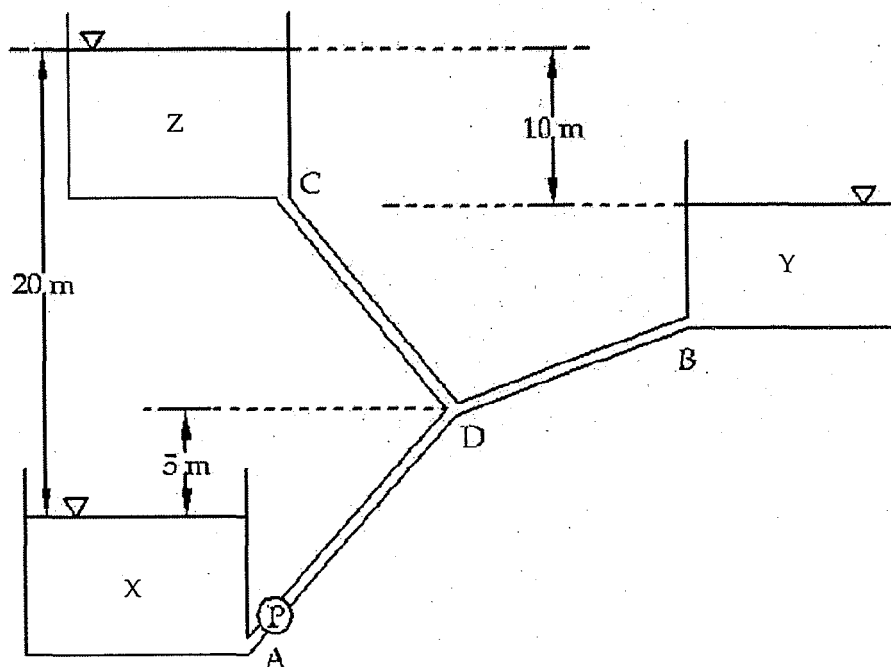

Figure 8
8) Three Tanks – X, Y and Z – are connected by 3 pipes – AD, BD and CD – that all meet at a junction D as shown in Figure 8. All three pipes have a length of 100 m, a diameter of 100 mm and a friction factor of 0.01. The differences between the water levels of the three tanks are shown in the figure.